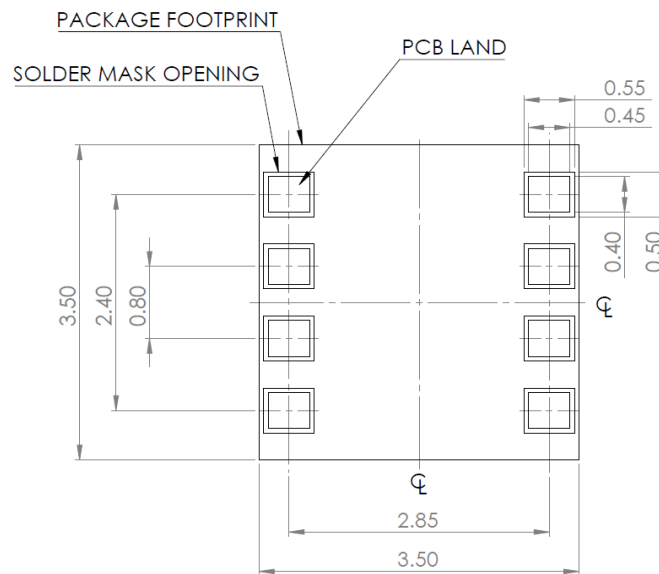

Figure 4. Recommended land and solder mask design
- PCB land height and width should be equal the transceiver pad height and width (Figure 4)
- Solder mask opening should exceed PCB land height and width by 0.1mm (Figure 4)